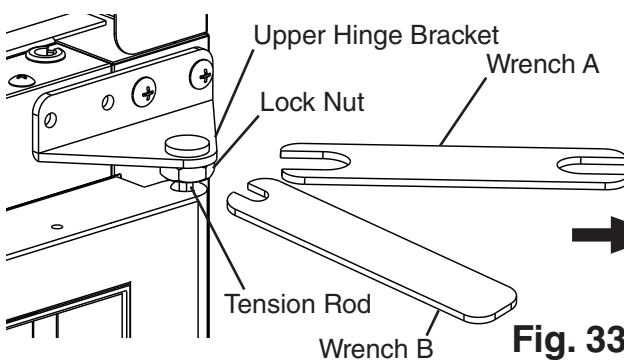

**Fig. 31**
- 2) Remove the front panel, then being careful not to pull the wires on the control module and door switch(es), remove the control panel. Secure the control panel so that it does not interfere with the hinge bracket and will not fall. See Fig. 31.